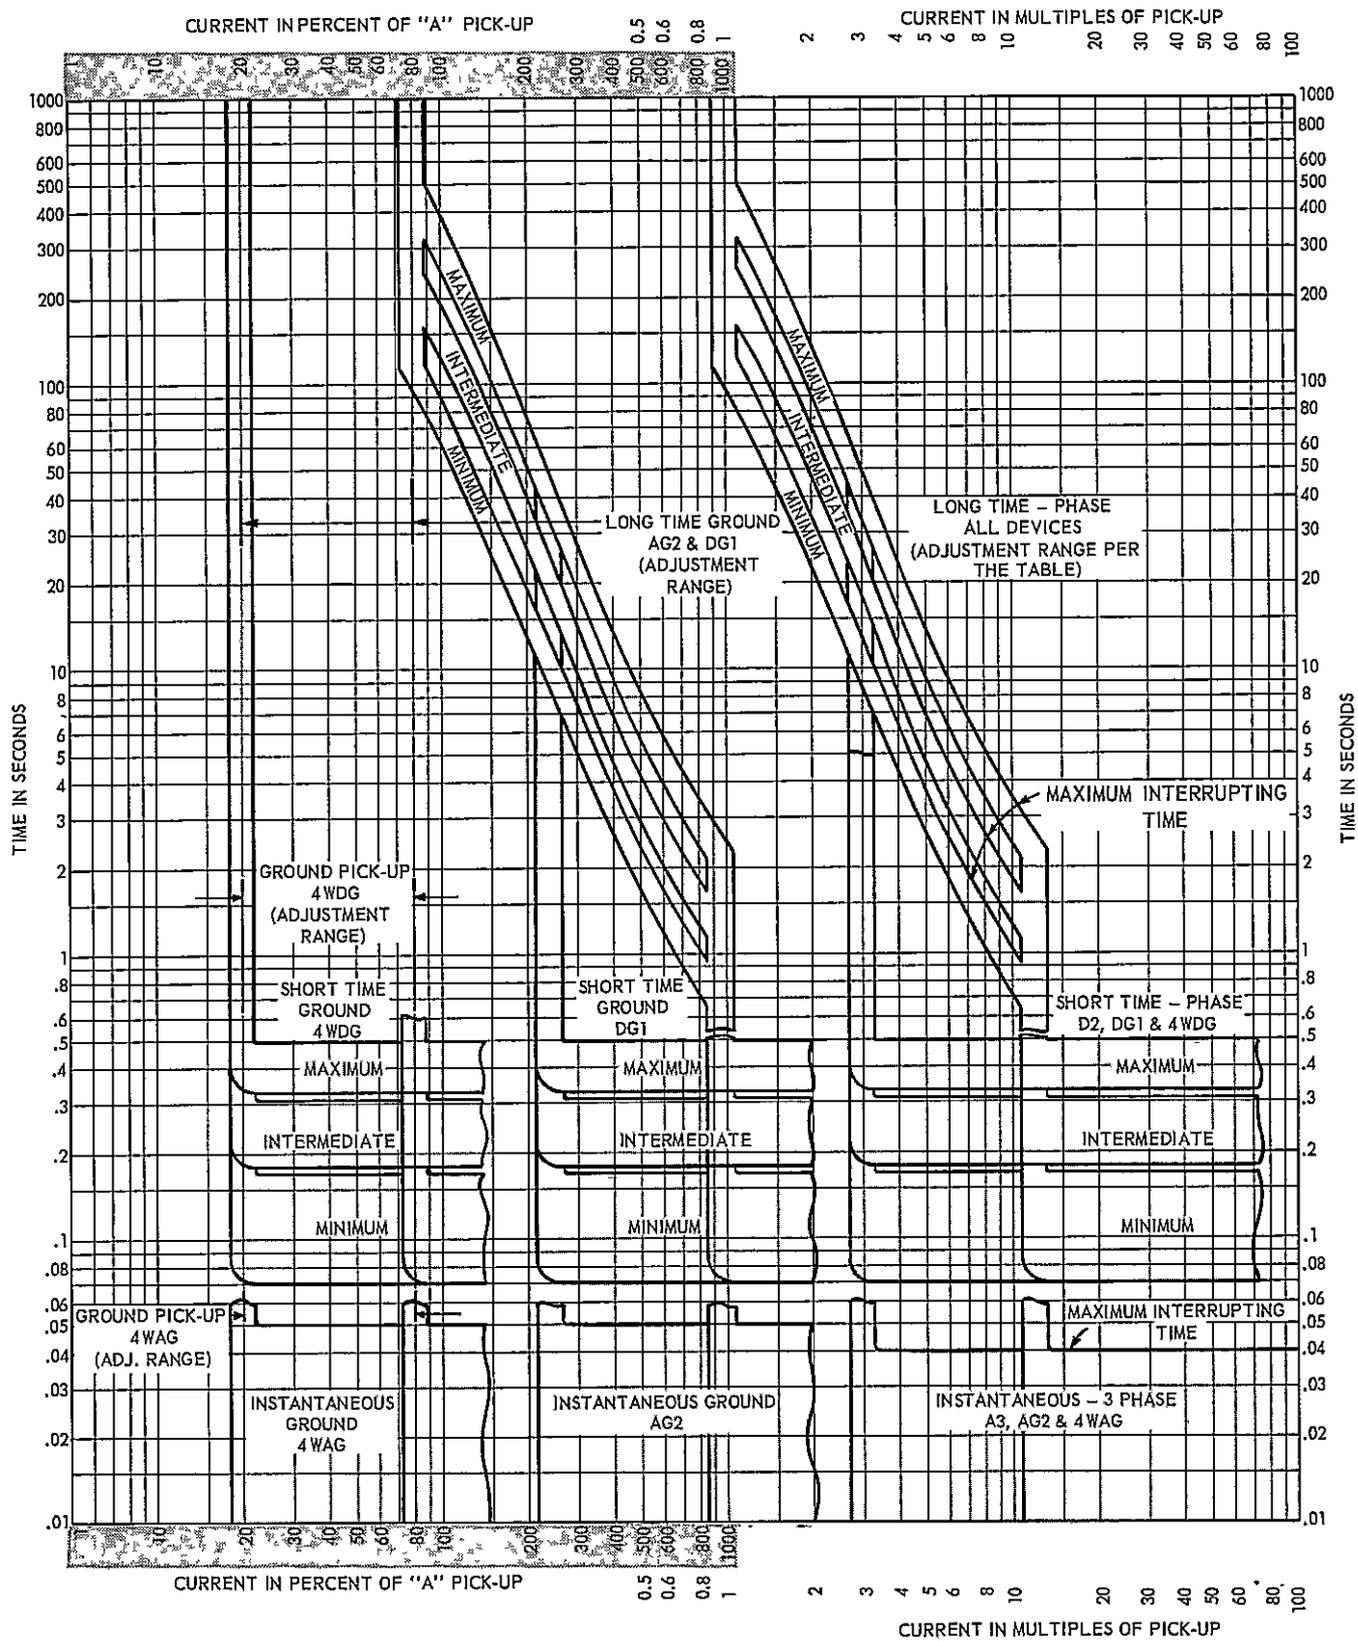

Fig. 3 — Time current characteristic curves
Furnished with one non-adjustable time-current curve. The curve may be either for the minimum, the intermediate or the maximum curve as shown in Fig. 3. Time delay up to 12 times pickup and instantaneous trip adjustment between 3 and 12 times pickup is standard on current models. On older models time delay is up to 15 times and instantaneous adjustment between 5 and 15 times. These models monitor the current in each of the three phases.
These models available with three long time delay curves and three short time delay curves. Any of these combinations may be selected through settings on the device's calibration plate. Selectivity between coordinated circuit breakers can be maintained throughout the full interrupting range of the breakers. Model D devices monitor the currents in each of the three phases. The arrangement of the time-current curves is shown in Fig. 3.
If the signal exceeds a value established by the preselected adjustments, it will bypass the timing circuit entirely and go directly to the static switch, turn it on and trip the breaker. This is the instantaneous trip feature of Dual models (A, A1, A2, AG, AG1, AG2, 4WAG), shown on the time-current curve (Fig. 3).
The Selective models (D, D1, D2, DG, DG1, DG2, 4WDG) do not have an instantaneous trip feature. Instead they have selective short-time delay curves. The circuits (dotted lines in Fig. 4) establish the timing characteristics for the short-time function. The signal will automatically activate either the long-time or short-time trigger circuits, depending on the magnitude of the signal and the setting of the pre-selected adjustments. The short-time circuits do not require a time shaping circuit because they are constant-time curves (Fig. 3).
Ground current pickup on AG and DG devices is treated in the same manner as phase current pickup when using the time-current curve and the same curve (Fig. 3) is used for defining time delay.
Example (3) Breaker rating per Figure 6. Phase pickup setting "E" (400 amperes). Transfer to instantaneous setting - 5X. Ground pickup setting 40% (80 amperes). An actual ground current of 320 amperes is flowing. 320 amperes ground current is four times (4X) pickup and will cause a trip operation in 3-1/2 seconds (on the minimum time band) as shown on the time-current curve (Fig. 3). However, if transfer to instantaneous setting were less than 4X, tripping would be instantaneous. Note that this ground current is much less than the phase pickup setting and would not be recognized on the phase pickups.
The "Instantaneous Trip Setting" knob of dual models (A, A1, A2, A3, AG, AG1, AG2 and 4WAG) selects a current value above which tripping takes place instantaneously instead of on time delay. The calibration is marked in multiples of pickup and allows selection between three (3X) and twelve (12X) times pickup. Thus, it is dependent on the settings selected for phase pickup and also for ground pickup on the AG, AG1, AG2, and 4WAG models. The time-current curve (Fig. 3) shows how the time delay on all models except 4WAG will follow the appropriate time band curve until the instantaneous setting is reached, then will go to the instantaneous value for all currents above that setting. On model 4WAG ground tripping is always instantaneous.
Currents between 200 and 2400 amperes will trip the breaker after a time delay defined by the maximum long time curve (Fig. 3). Currents above 2400 amperes will trip the breaker in the time indicated by the minimum short time curve.
The time bands on the A, AG, and 4WAG models are set during manufacture and cannot be changed. The legend on the left side of the static trip device indicates whether the particular device is set for minimum, intermediate, or maximum time band, corresponding to the curves on Figure 3.
The D, DG, and 4WDG models are arranged so that any of the time bands may be selected. There are two groups of time bands provided; one for long time delay and one for short time delay, corresponding to the curves on Figure 3.